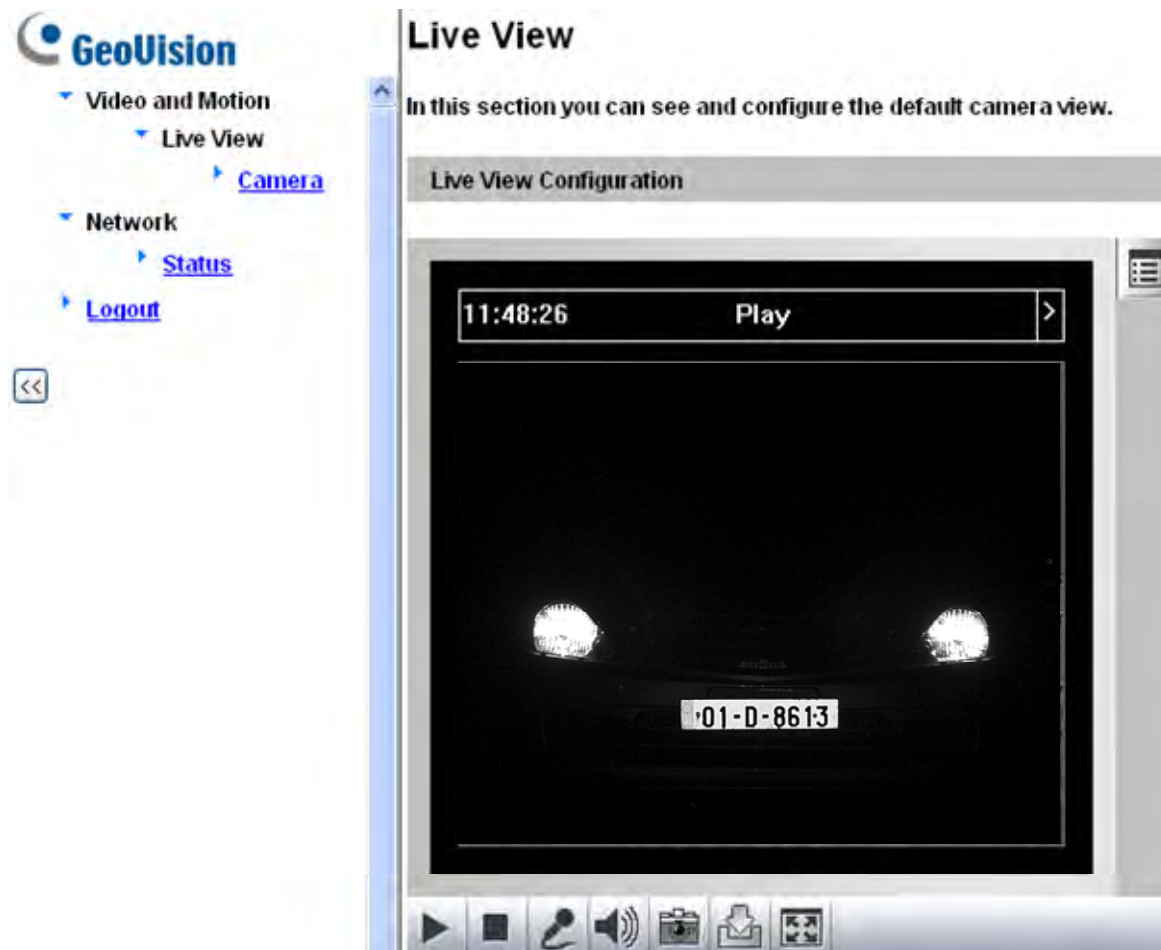

Figure 3-1
4. A video image, similar to the example in *Figure 3-1*, is now displayed on your browser.